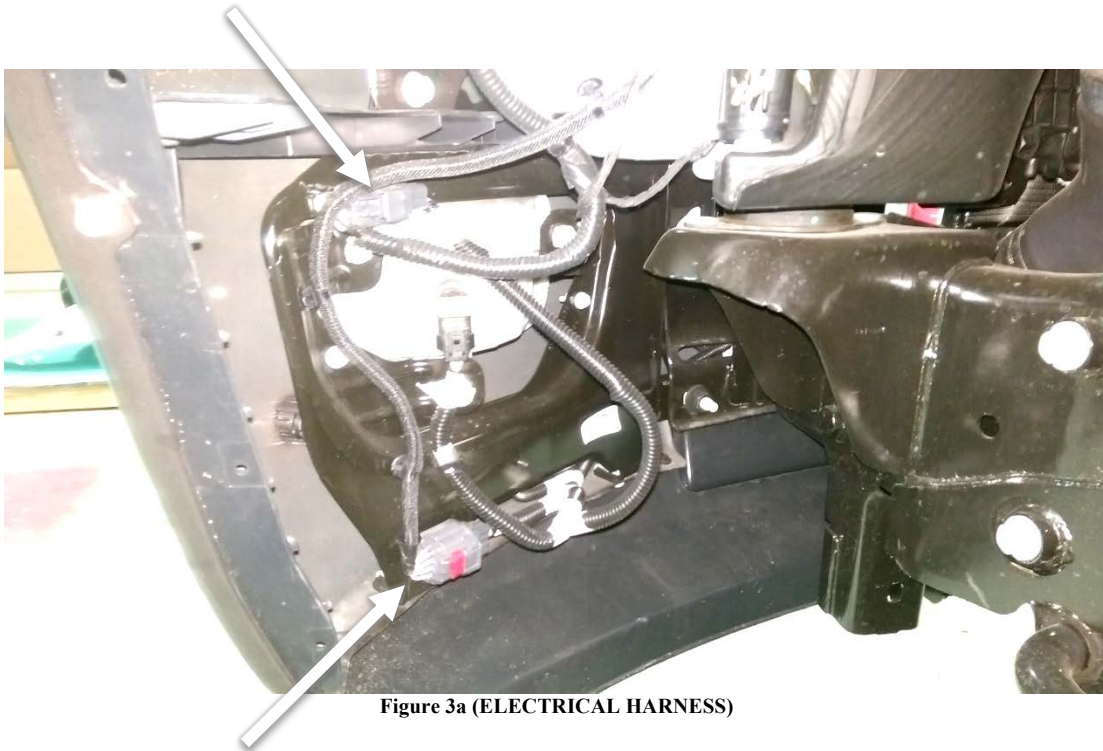
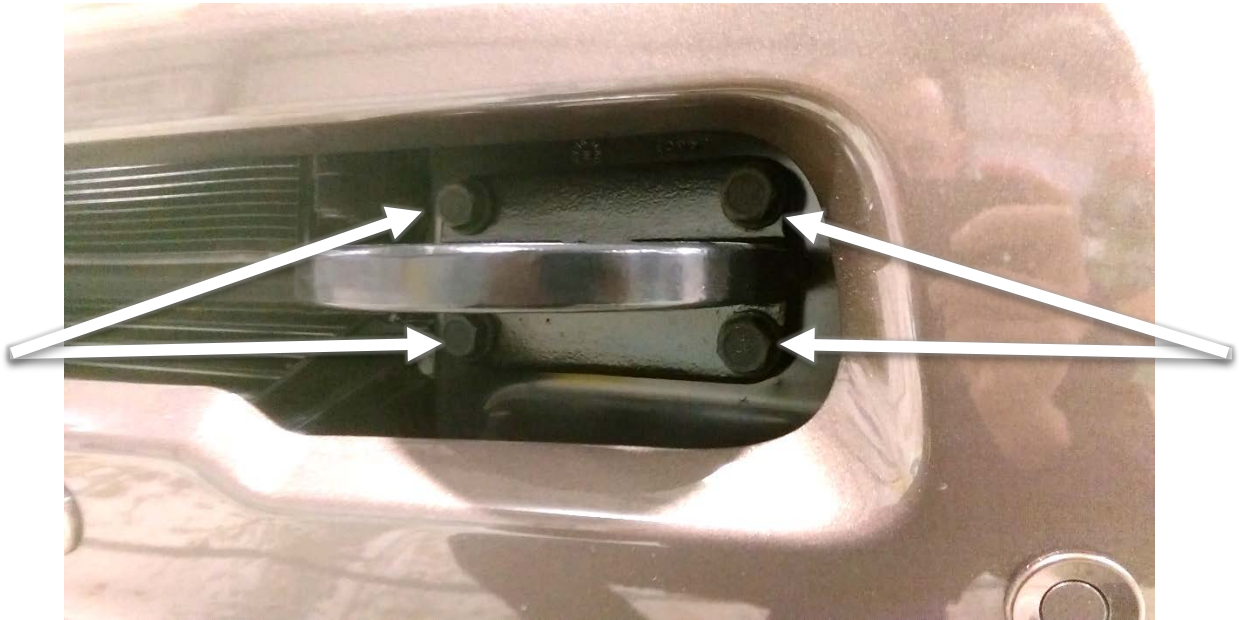

Figure 3a (ELECTRICAL HARNESS)
Figure 3b (TOW HOOK)
C. Disconnect the two electrical connectors on the driver's side of the bumper (Ref. Figure 3a) by pulling on the red tab and depressing the locking clip and using an 18mm socket remove the two tow hooks. Tow hooks are mounted with four bolts each from the front (Ref. Figure 3b).